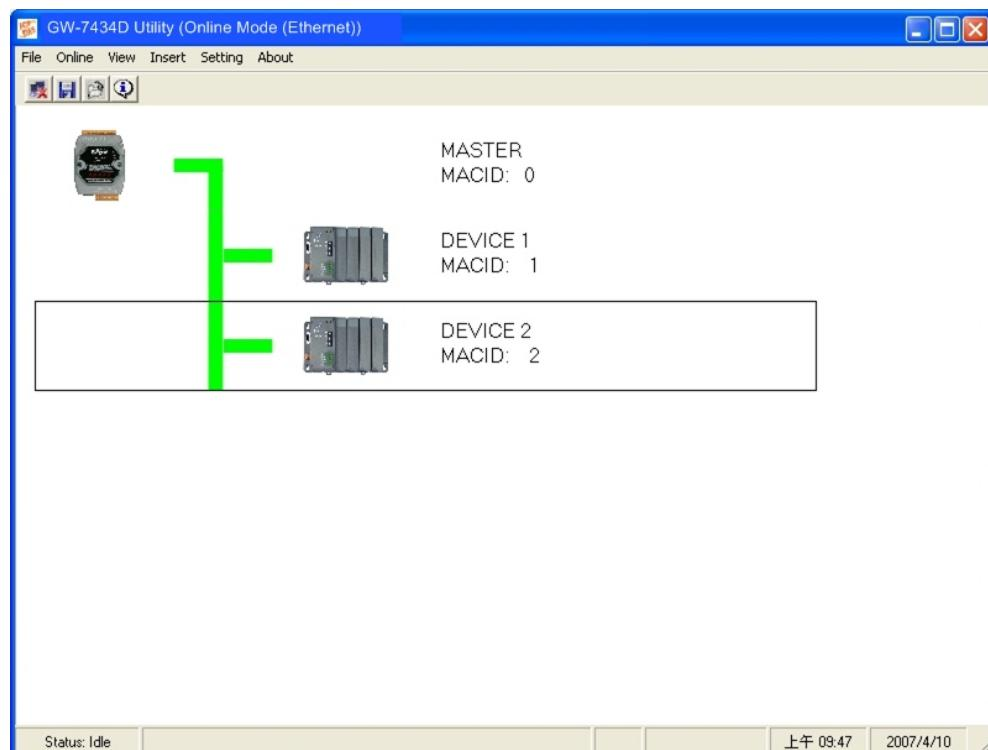

Figure 5-23: Start to monitor the connection status of each device
- After pressing “OK” button to finish the setting of all actual devices, Utility tool will save all setting into GW-7434D’s EEPROM and GW-7434D start to communicate with these devices automatically. Then the GW-7434D Utility tool will display each configured device’s connection status on the main frame and update the device connection information per 0.8 second. As shown in figure 5-23.